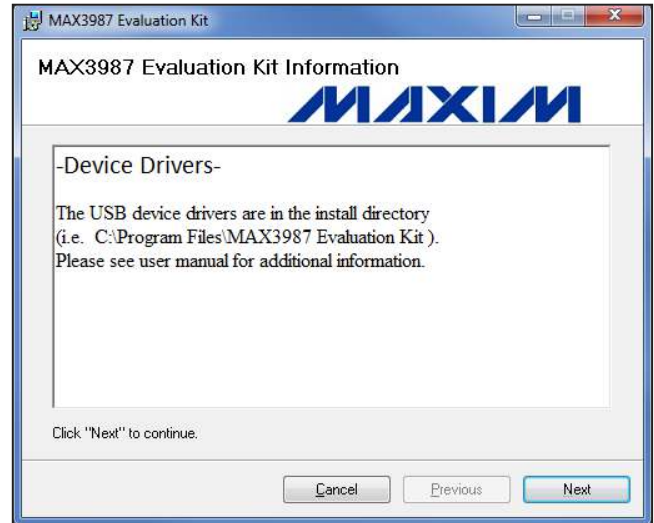

Figure 8. Software Installer USB Driver Reminder
6) Click **Next** to dismiss the USB driver reminder. See Figure 8.